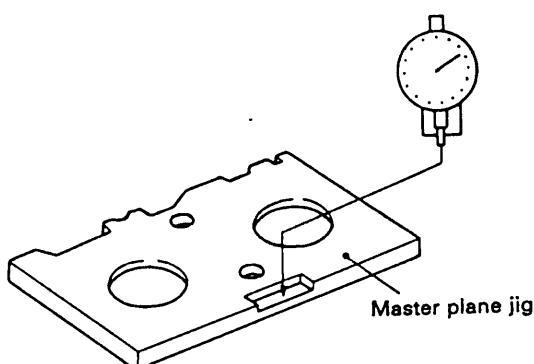

Fig. 3-1 Master plane jig setting
- Remove the front loading parts and set the master plane jig as indicated in Fig. 3-1.
- Set the master plane jig as shown in Fig. 3-1.